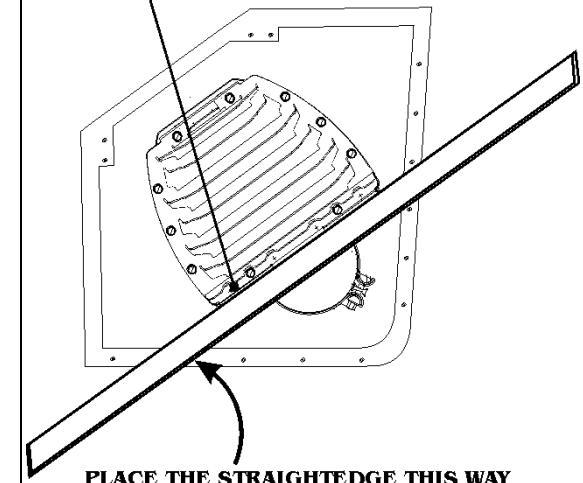

FIGURE 8: DIFFUSER POSITION ADJUSTMENT 04015_2
3. Using a straightedge, adjust the diffuser assembly level. The top surface of the warning plate fixed on the diffuser louvered cover must be flush with the roof surface (fig.8). It may exceed about $\frac{1}{4}$ in (6mm). Place the straightedge as shown on figure 8.